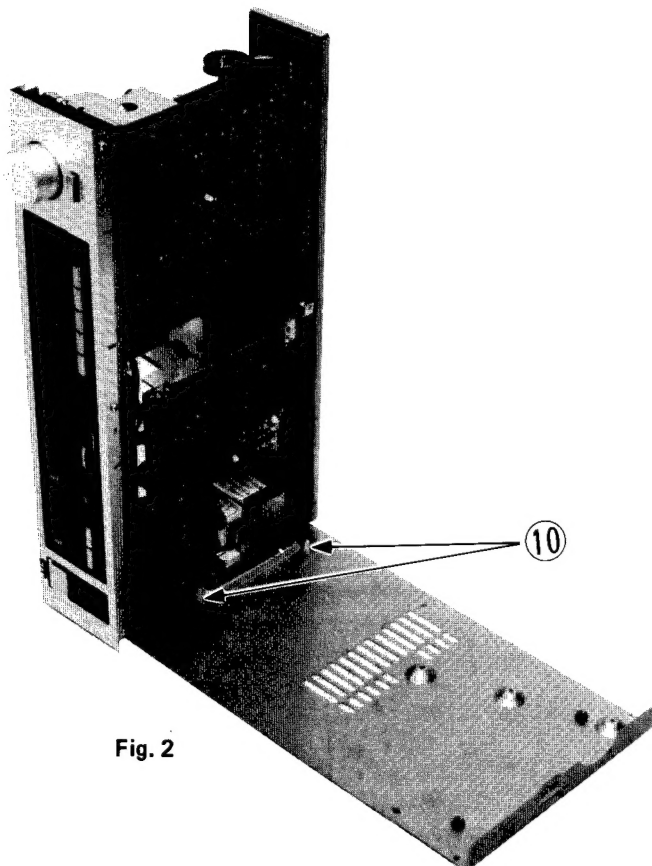

Fig. 2
- Step 4: Detach two fasteners ⑩ which retain in place the amplifier PC board (See Fig. 2).
- After completing the above steps, the bottom cover can be demounted as shown in Fig. 2.